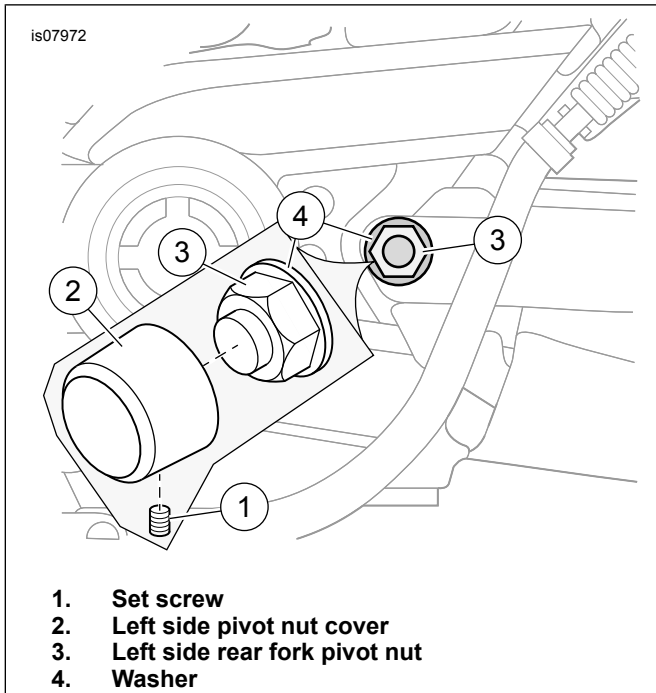

Figure 2. Left side Pivot Nut Cover Installation
2. See Figure 2. Start a set screw (1) from the kit into the pivot bolt cover (2) (longer) about two or three turns.
3. Note the position of the bottom-most flat on the rear fork pivot nut (3). Line up the pivot bolt cover over the bolt head so the set screw is centered on the hex flat. Verify that the washer (4) is centered and the cover fits. If not, refer to the service manual on how to loosen and tighten the pivot bolt. Tighten the set screw securely to the head of the rear fork pivot nut.